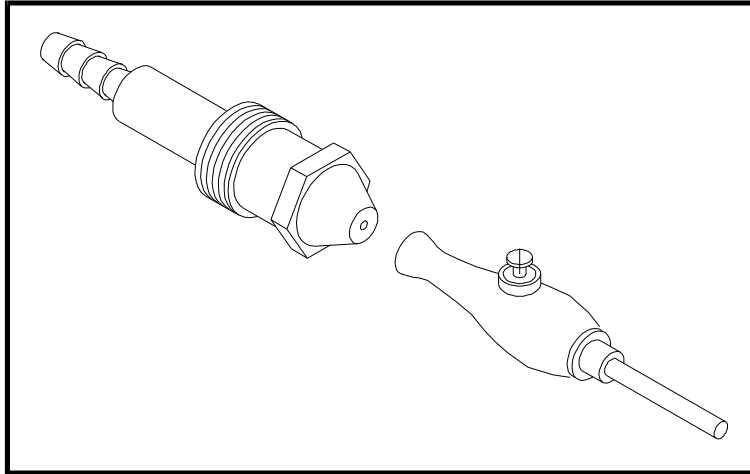

Figure 5 Cleaning Nozzle with Compressed Air
2. Adjust the gap by bending the outside electrode. See Figure 5.